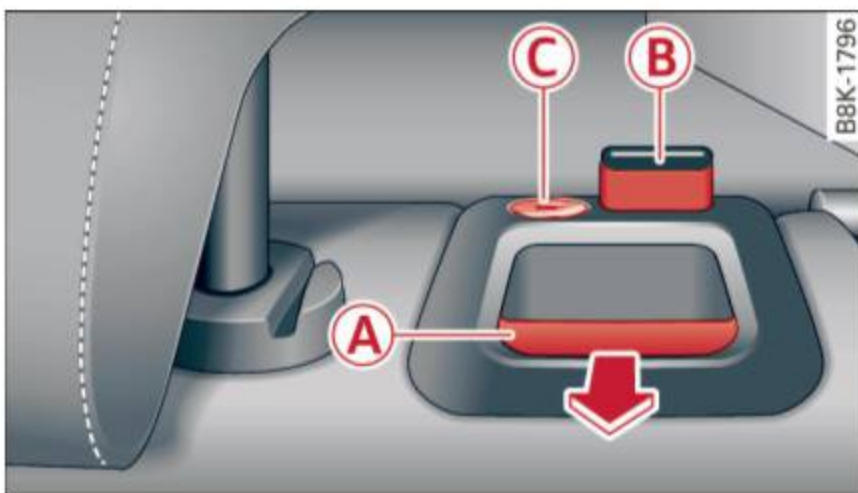

Fig. 68 Backrest: release lever, securing knob and latch
- ▶ Pull the release lever **A** ⇒ *fig. 68* in the direction of the arrow to fold the backrest forward.
You can lock the backrest when it is latched in place using the mechanical key ⇒ *page 33* **C** ⇒ *fig. 68*. This prevents any access to the luggage compartment from the vehicle interior.